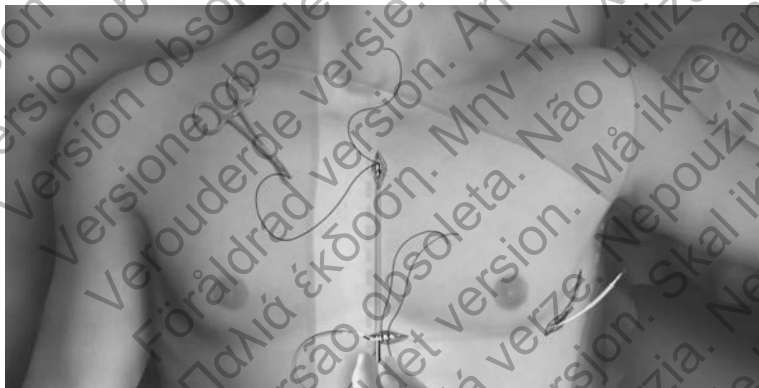

Figure 14. Tunneling to Superior Incision
- Insert the distal tip of the EIT into the xiphoid incision and tunnel subcutaneously towards the superior incision, staying as close to the deep fascia as possible (Figure 14 Tunneling to Superior Incision on page 40).